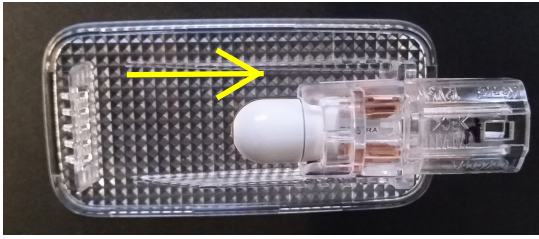

Figure 55
- (a) Install luggage compartment light bulb as shown in Figure 55. Making sure the lens side of the bulb is facing the lens side of the housing.